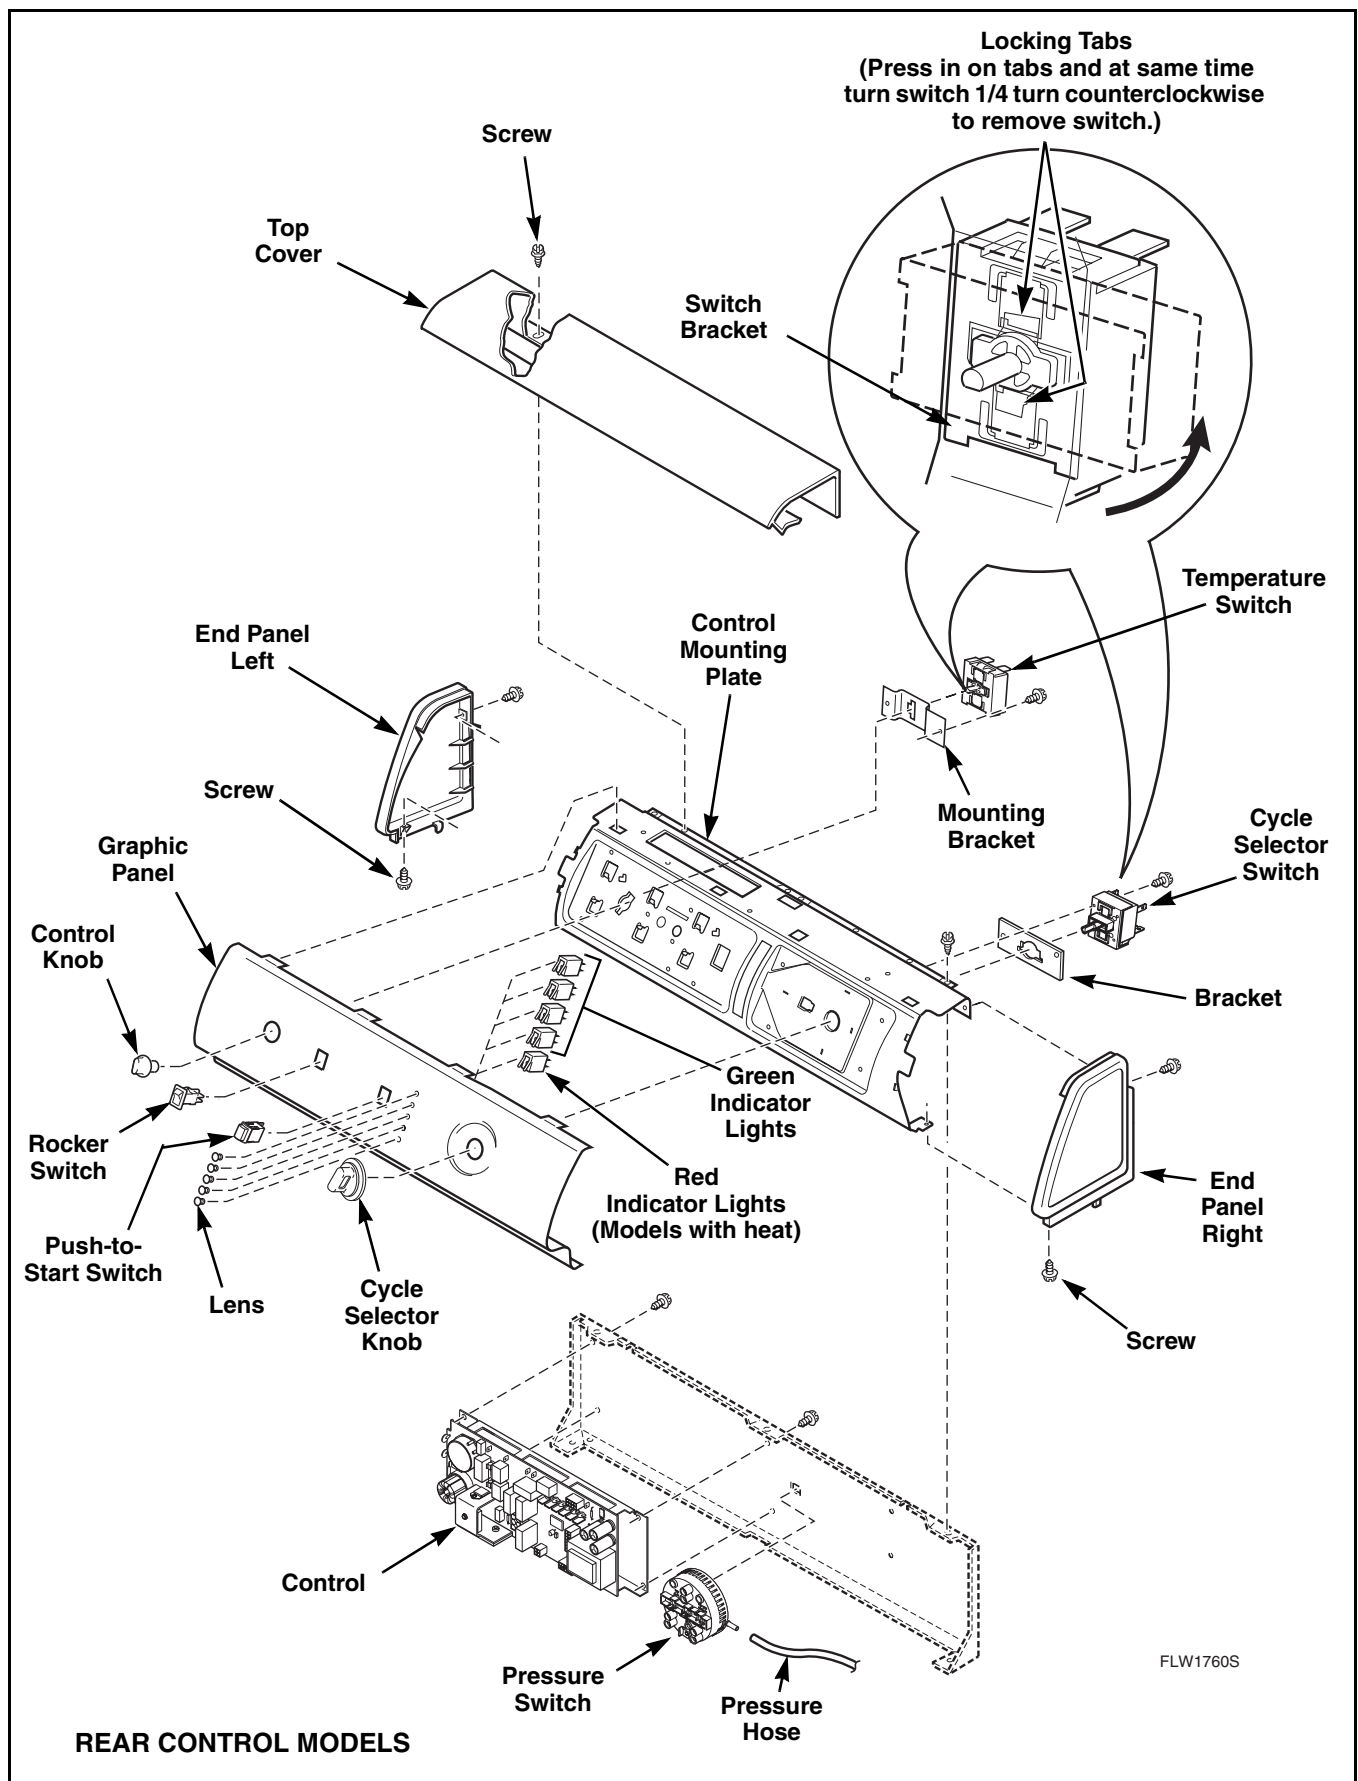

Figure 7
Remove two screws holding each end panel to control mounting plate. Refer to *Figure 7*.
- a. Remove cycle selector knob from cycle switch shaft. Refer to *Figure 7*.
- e. Refer to *Figure 7* for switch removal.
- f. Press in on two locking tabs and at the same time turn switch 1/4 turn counterclockwise to remove switch from switch bracket. Refer to *Figure 7*.
- d. Refer to *Figure 7* for switch removal.
- e. Press in on two locking tabs and at the same time turn switch 1/4 turn counterclockwise to remove switch from switch bracket. Refer to *Figure 7*.
- d. Remove four screws holding control to control hood rear panel. Refer to *Figure 7*.